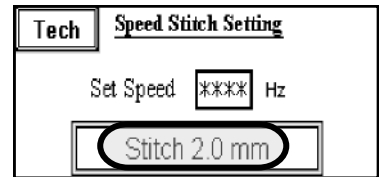

Figure 39
12.3 SPEED STITCH SETTING. Press **Stitch** (See Figure 39)